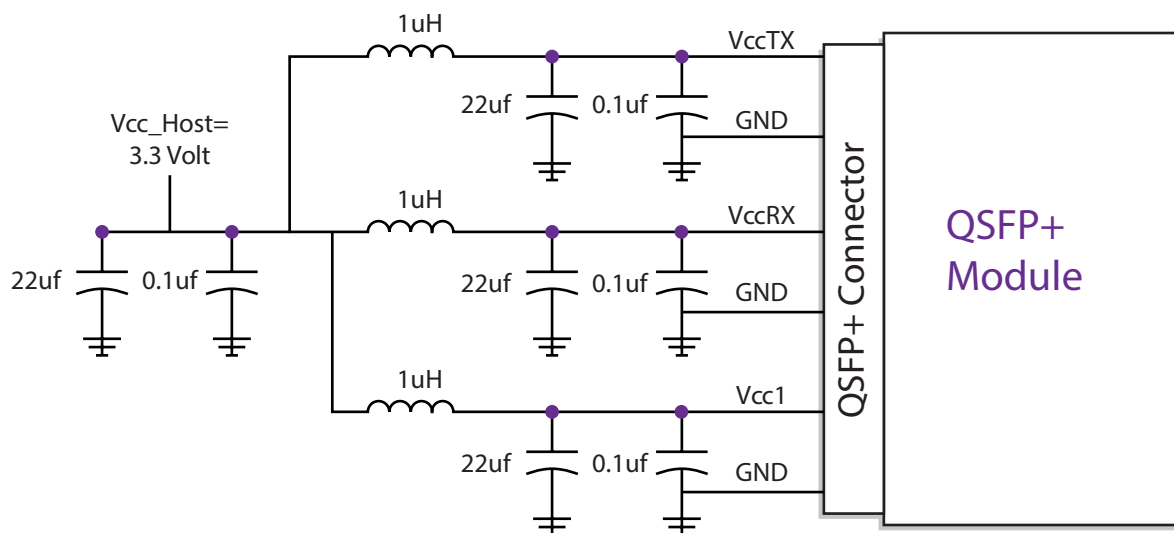

Figure 3. Recommended Power Supply Filter
2. VccRx, Vcc1 and VccTx are the receiver and transmitter power suppliers and shall be applied concurrently. Recommended host board power supply filtering is shown in Figure 3 below. Vcc Rx, Vcc1 and VccTx may